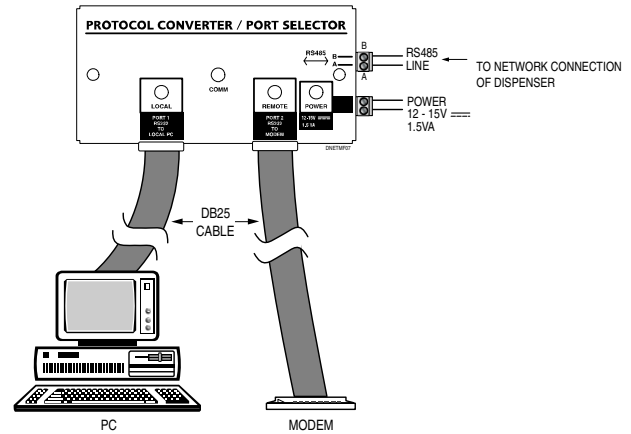

Figure 7. Network to Local PC Connection Using Modem and Protocol Converter/Port Selector
1. See Figure 7. Run 2-conductor cable from the dispenser network to the Protocol Converter/Port Selector.
2. Refer to Figure 7 and connect the male DB-25 remote output of the Protocol Converter/Port Selector to a US Robotics modem (Classic, Classic V, Sportster or 56k FAX models). Use a 25 to 25-pin RS-232 serial cable to make this connection.